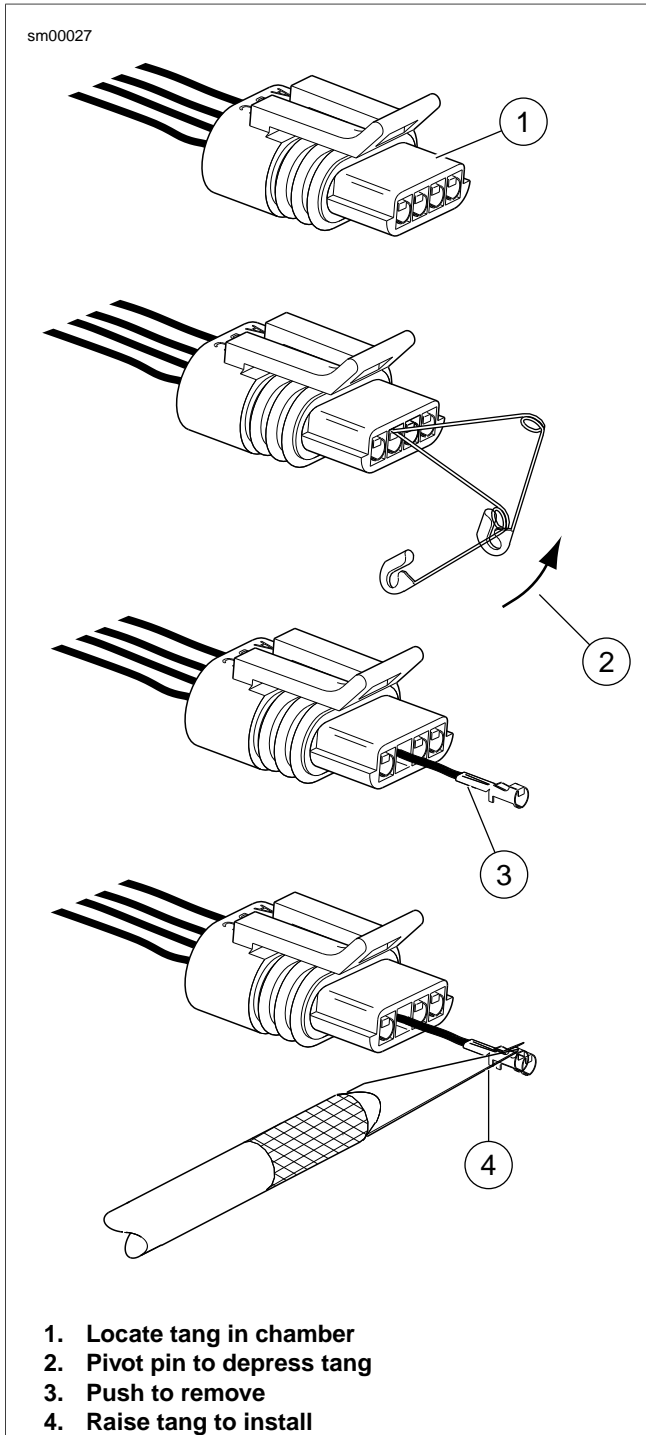
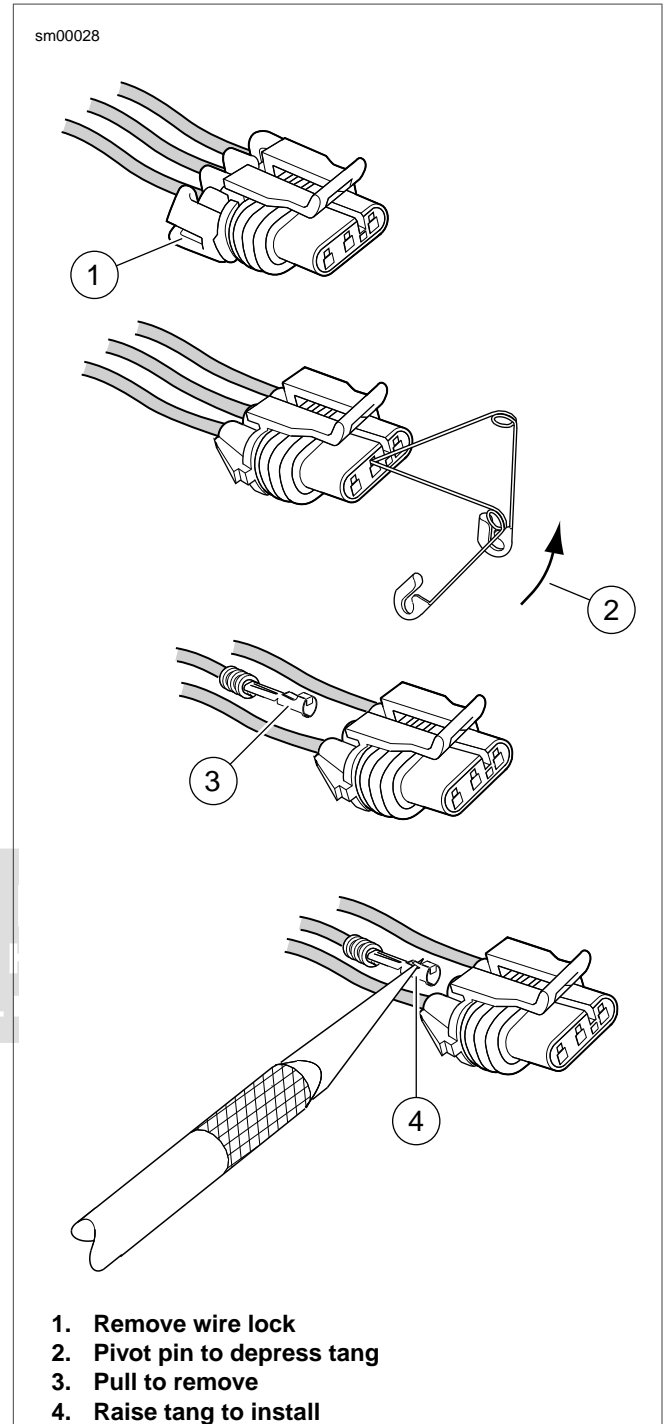

Figure A-37. 150 Metri-Pack Connector: Pull-to-Seat
Figure A-38. 150 Metri-Pack Connector: Push-to-Seat
1. See Figure A-37 for pull-to-seat connector or Figure A-38 for push to seat connector. Remove wire lock (1) from wire end of socket housing on push-to-seat type connectors.
1. See Figure A-37 for pull-to-seat connector or Figure A-38 for push to seat connector. Using a thin flat blade, like that on a hobby knife, carefully bend the tang outward away from the terminal body.
For push-to-seat: See Figure A-38. Seat wires in separate channels of wire lock and then push channels **inside** chambers at wire end of socket housing. Fully installed, slot on each side of wire lock engages ear on socket housing.